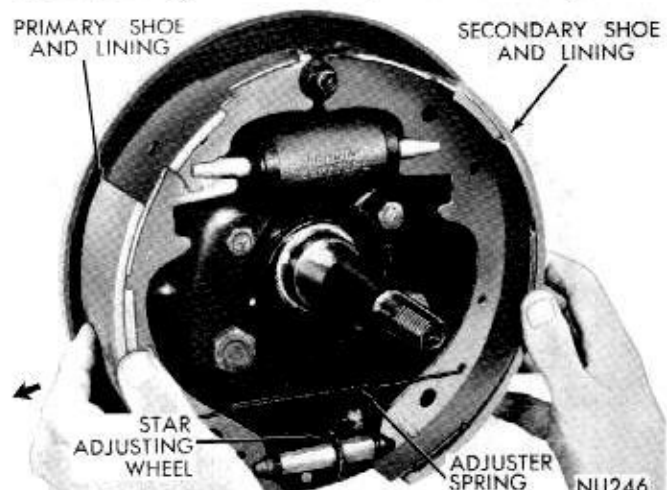

Fig. 9—Installing Brake Shoes (Left Front)
(4) Spread anchor ends of brake shoes to hold star adjusting wheel assembly in position.
(5) Holding brake shoes firmly, place assembly on support plate, and at the same time engage shoe webs with push rods (Fig. 9).